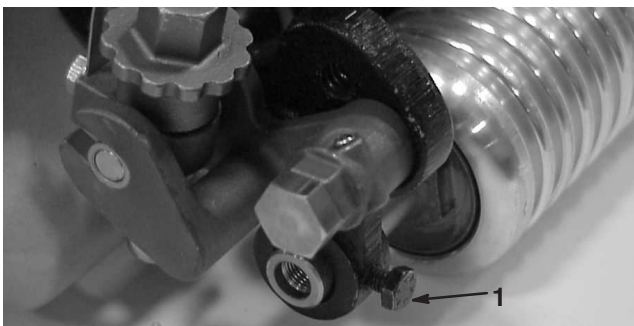

Figure 35
3. Loosen the bolt securing the roller shaft to the height-of-cut arm (Fig. 35).